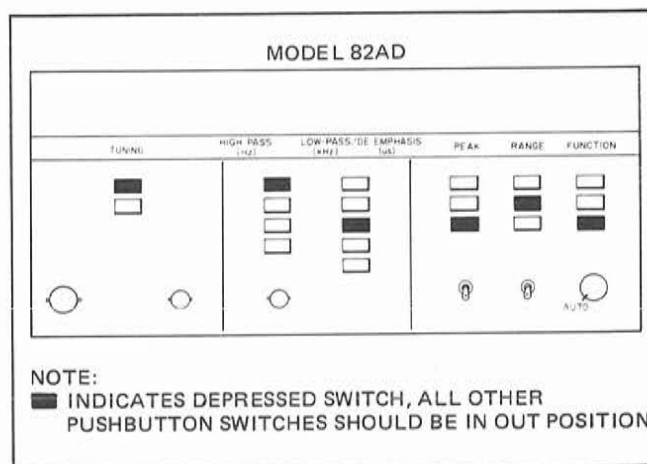

Figure 4-10 Known Signal Generator Calibration Method, Model 82AD Switch Settings
c. Depress the Model 82AD switches indicated in Figure 4-10. Set the LEVEL control to the AUTO position.